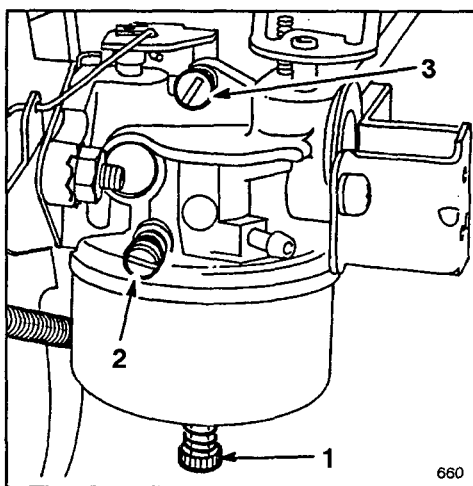

Figure 29
2. Power Adjusting Screw (Fig. 29)—Close screw by gently rotating it clockwise until a slight seating resistance is felt. Next, rotate power adjusting screw one full turn— 360° —counterclockwise. **IMPORTANT:** Do not close power adjusting screw or idle mixture screw
3. Idle Mixture Screw (Fig. 29)—Close screw by gently rotating it clockwise until a slight seating resistance is felt. Next, rotate idle mixture screw $1-1/2$ full turns counterclockwise.
5. Rotate power adjusting screw (Fig. 29) clockwise—in— $1/8$ turn at a time until engine misses because of a lean gasoline mixture. Then rotate screw counterclockwise—out— $1/8$ turn at time until engine runs unevenly because of a rich gasoline mixture. Next, rotate power adjusting screw clockwise, back to the midpoint between the rich and lean settings, so engine runs smoothly.
7. Rotate idle mixture screw (Fig. 29) clockwise—in—1/8 turn at a time until engine begins to miss because of a lean mixture. Then rotate screw counterclockwise—out—1/8 turn at a time until engine runs unevenly because of rich mixture. Next, rotate idle mixture screw clockwise, back to the mid-point between rich and lean settings.
8. Again, rotate idle speed screw (Fig. 29) until engine idles at 1750 rpm.